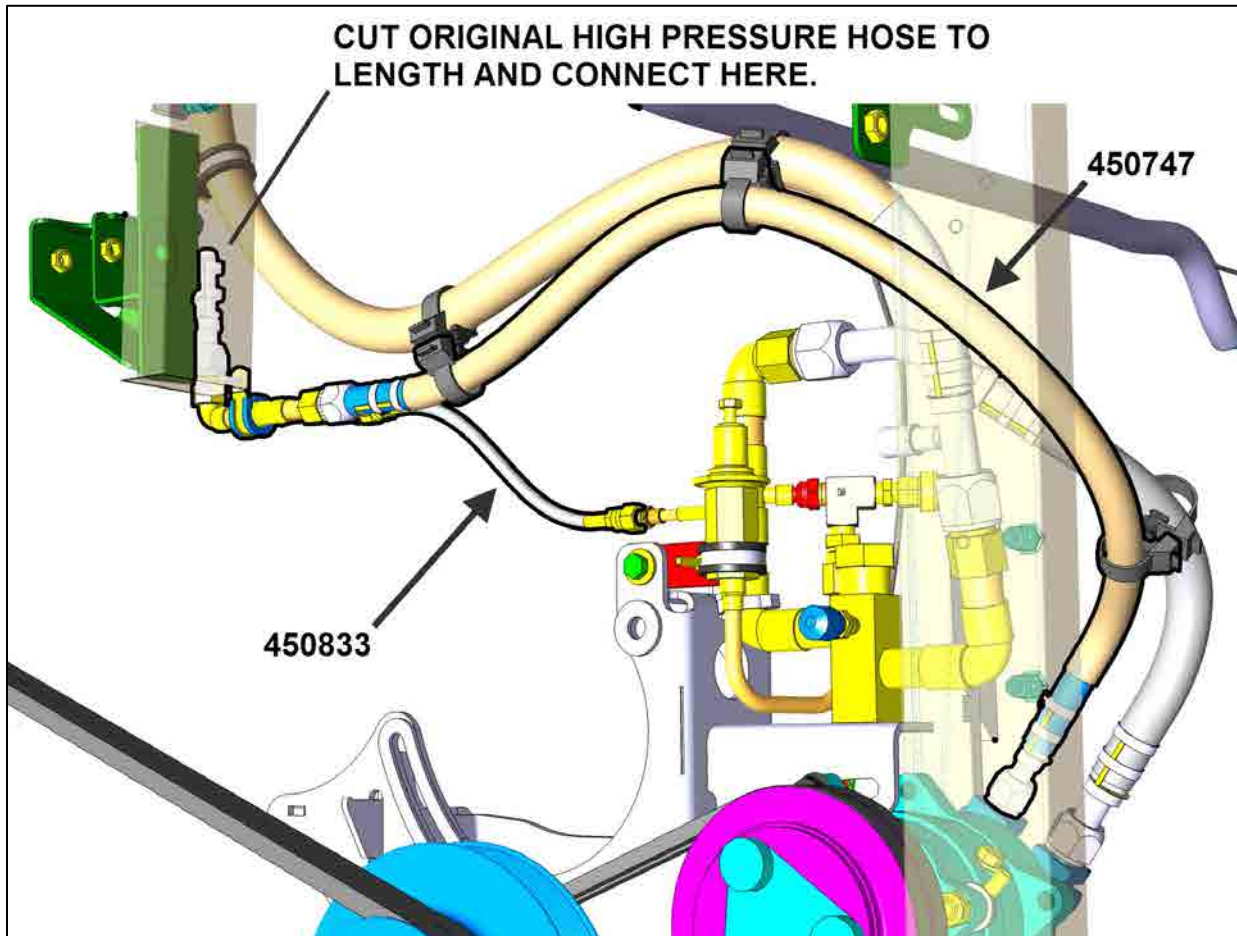

Figure 8 : Hose installation
10. Connect hoses #450747 and #4 size hose #450833 to hot gas pickup tube (Fig. 8, 9 & 10).
12. Support hose #450747 at required locations to prevent abrasion with #504751 dual swivel cable tie base. (Fig. 8 & 11)